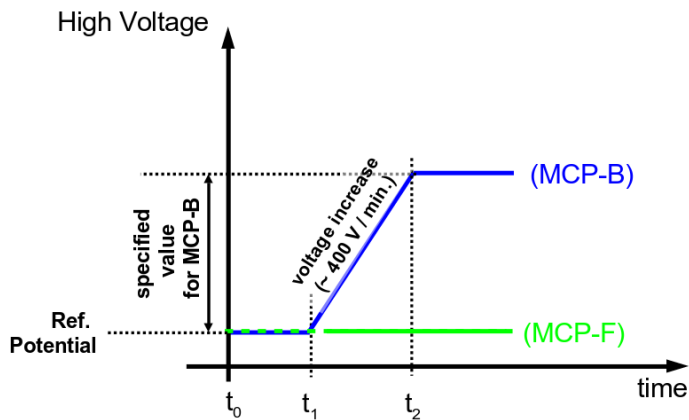

Figure 2: Schematic sketch on voltage ramping during “Start-Up” procedure.
- Turn on the high voltage carefully. The voltage increase should not exceed 400V per minute. A schematic sketch on how to ramp the voltages during the "Start-Up" procedure is given Figure 2. The starting operation voltage is specified in the specification sheet of the detector.